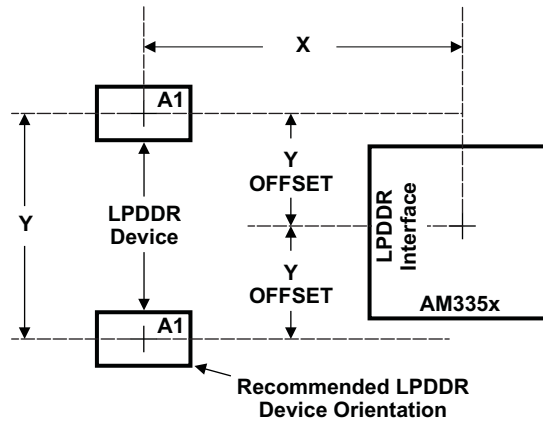

图 7-34. AM335x Device and LPDDR Device Placement
图 7-34 shows the required placement for the LPDDR devices. The dimensions for this figure are defined in 表 7-35. The placement does not restrict the side of the PCB on which the devices are mounted. The ultimate purpose of the placement is to limit the maximum trace lengths and allow for proper routing space. For single-memory LPDDR systems, the second LPDDR device is omitted from the placement.
(1) LPDDR keepout region to encompass entire LPDDR routing area.
(2) For dimension definitions, see 图 7-34.
(3) Measurements from center of AM335x device to center of LPDDR device.
(4) For single-memory systems, TI recommends that Y offset be as small as possible.
(5) w is defined as the signal trace width.
(6) Non-LPDDR signals allowed within LPDDR keepout region provided they are separated from LPDDR routing layers by a ground plane.